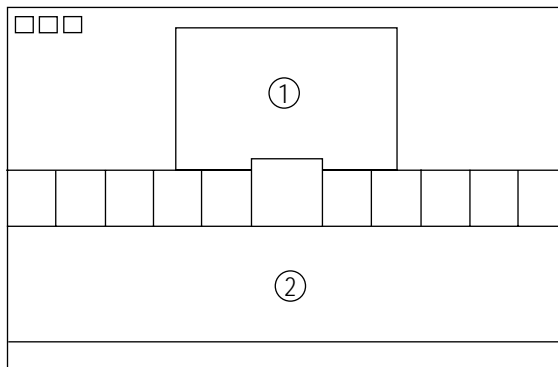

Fig. 4-4
1. Set SBT to 2.5 ± 0.5 fL in the Factory Service Mode with using CA100. See Fig. 4-4 ②.
1. 50 21"flat in the Factory Service Mode with using CA100. See Fig.4-4 ① .